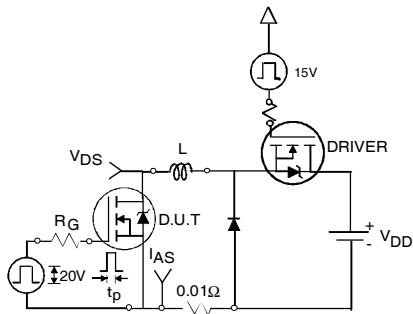

Fig 22a. Unclamped Inductive Test Circuit
3. Equation below based on circuit and waveforms shown in Figure 22a, 22b.